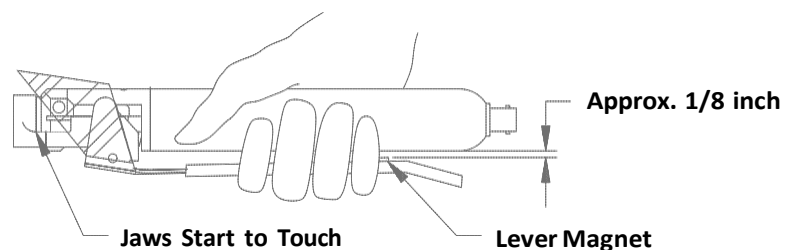

Figure 4-2, Correct Lever/Sealing Body Gap
5. Verify the Sealing Head's mechanical functions by squeezing the lever. The sealing region should close evenly *before* the lever comes in contact with the tube body. See Figure 4-2, Correct Lever/Sealing Body Gap.
| | Lever assembly out of alignment. | See Figure 4-2, Correct Lever/Sealing Body Gap, for proper alignment. |
| | Tubing not properly clamped in sealing region. | Ensure that the sealing region closes evenly before the lever comes in contact with the tube body (see Chapter 4, Figure 4-2, Correct Lever/Sealing Body Gap). |
| | Tubing not properly clamped in sealing region. | Ensure that the sealing region closes evenly before the lever comes in contact with the tube body (See Chapter 4, Figure 4-2, Correct Lever/Sealing Body Gap). |